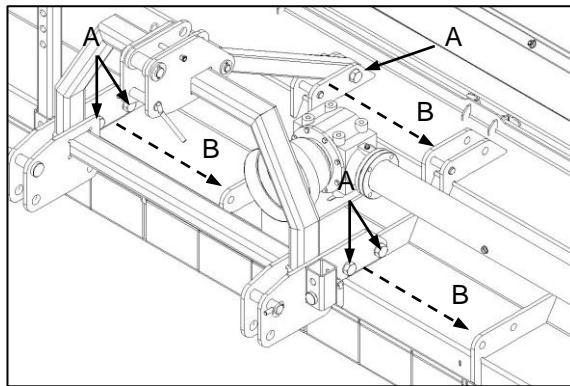

Fig. 5
- ✓ Remove all front and rear hitch frame mounting bolts (Fig. 5-A).
- ✓ Verwyder alle voorste en agterste haakraammontereboute (Fig. 5-A).
- ✓ Manually relocate the hitch frame to the alternative mounting locations situated to the left of the implement centre line (Fig. 5-B).
- ✓ Verskuif die haakram met die hand na die alternatiewe monterposisies links van die implement se middellyn (Fig. 5-B).